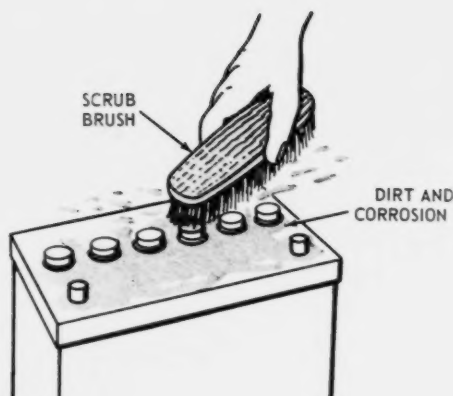

Fig. 23—Removing Dirt With A Bristle Brush
6. Use a bristle brush to remove loose dirt and corrosion particles from the top of the battery (Fig. 23).